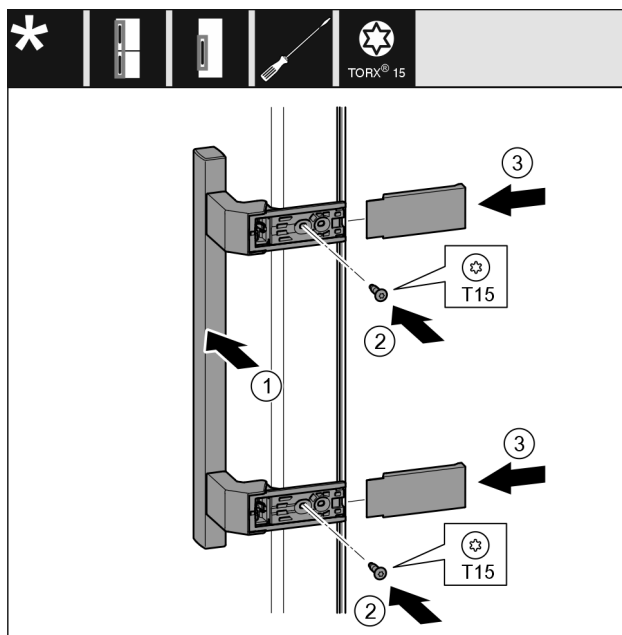

Fig. 26
- Place the handle Fig. 26 (1) on the opposite side.
- Tighten screws Fig. 26 (2) with screwdriver.
- Place the covers Fig. 26 (3) on the side and push them on.